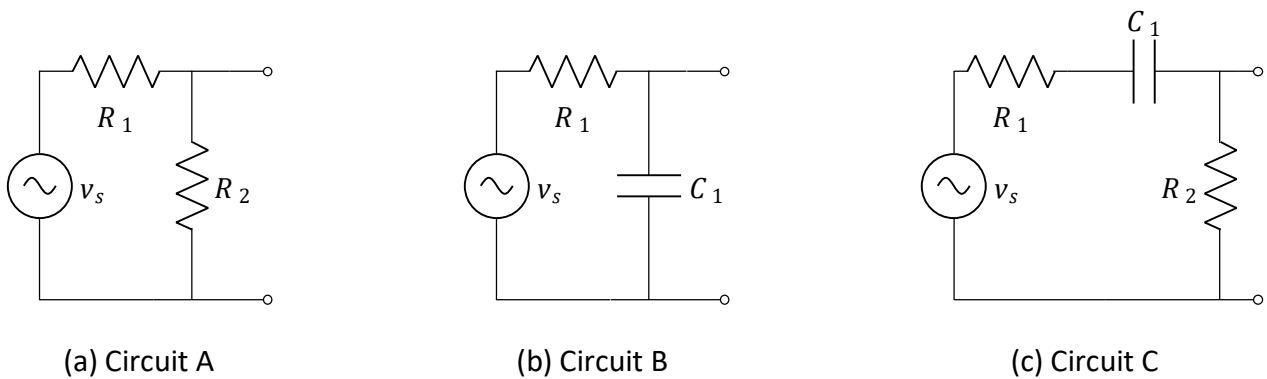
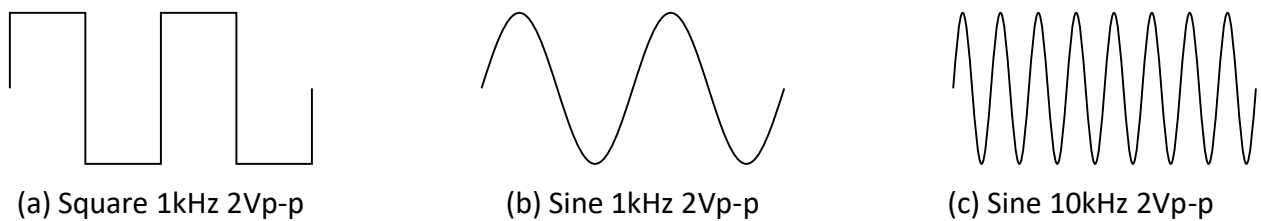

Figure 1: Circuits for analysis.
Figure 2: Stimulus waveforms.
For each of the circuits shown in Figure 1, apply each of the input signals shown in Figure 2.
c) Calculate the peak-to-peak voltage at the output of Circuit A for each of the input waveforms in Figure 2. Complete the table.
d) Construct Circuit A using the solderless breadboard provided. Using the oscilloscope at your workstation, apply each of the input waveforms in Figure 2 to the circuit. Measure and record the peak-to-peak output voltage.
c) Calculate the peak-to-peak voltage at the output of Circuit B for each of the input waveforms in Figure 2.
d) Construct Circuit B. Using the picoscope, apply each of the input waveforms in Figure 2 to the circuit. Measure and record the peak-to-peak output voltage.
c) Calculate the peak-to-peak voltage at the output of Circuit C for each of the input waveforms in Figure 2.
d) Construct Circuit C. Using the Picoscope, apply each of the input waveforms in Figure 2 to the circuit. Measure and record the peak-to-peak output voltage.